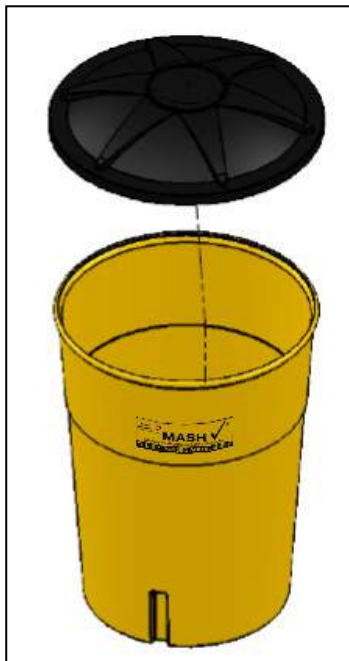
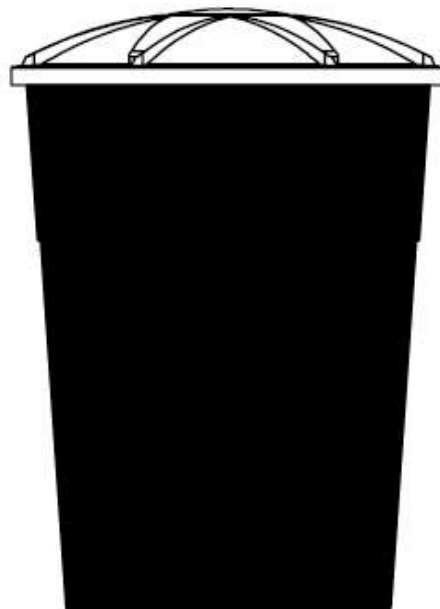

Figure 9a: 2100 lbs. Barrel Assembly.
Figure 9b: Barrel Filled at 2100 lbs. (960 kg)
The assembly of the Big Sandy 2100 lbs. Barrel consists of two components: one (1) 2100 lbs. barrel, and one (1) Lid. The sand is to be filled up to the rim of the barrel itself. The Lid then snaps on top of the barrel as shown in Figure 9a. If in the event the Lid needs to be removed, use a wedge tool to pry the lid open all around the rim of the barrel. Figure 9b shows the correct fill level of the sand.